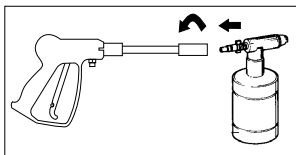

Figure 7
4. Attach the detergent applicator to the gun as pictured in Figure 7.